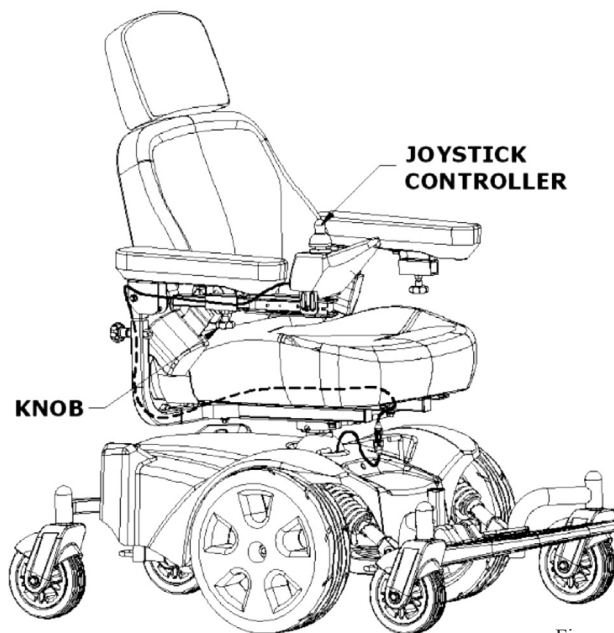

Figure 24. Adjustment controller position
1. Loosen the knob which is fastened on the pipe. (See figure 24)